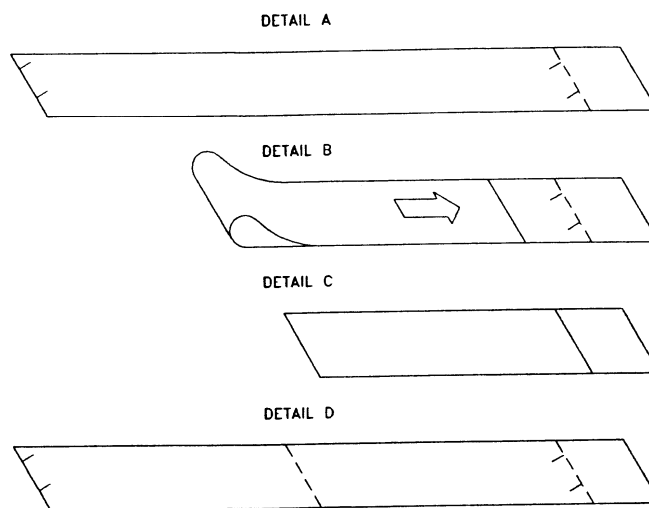

Figure 2.8
2. Mark the intersection of the two ends of the paper to indicate the circumference. Remove the template and spread it out on a flat surface. Fold the template in half, bisecting the circumference. See **Figure 2.8** on page 2.14.